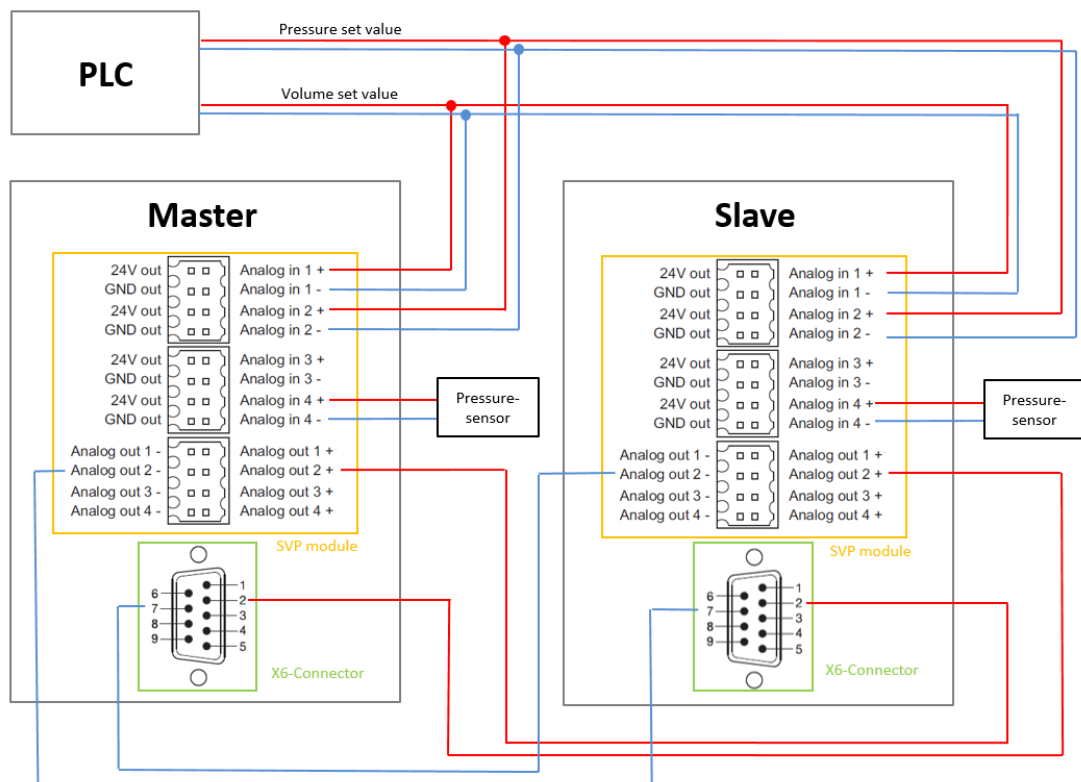

Figure 16: Master/Slave connection for switching between master and slave mode during operation
▶Figure 16◀ on page 23 shows the connection schematic for the switchable analog Input/Output configuration. The PLC's set value path is connected to both drives. The volume set value is connected to analog in 1 of the SVP module and the pressure set value is connected to analog in 2 of the SVP module. The analog out 2 of each SVP module is connected to the pin 2 of the corresponding X6-Connector for transmitting the speed value.